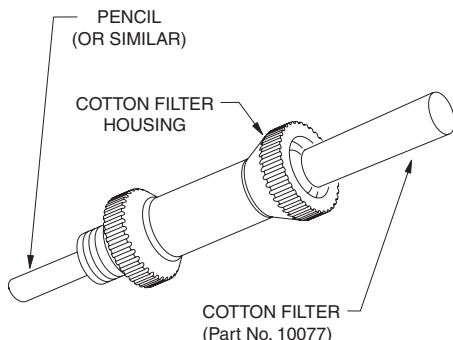

Fig. 12.9 Cotton Filter Removal
- 3) Using a pencil or similar, push the cotton filter from the threaded end of the housing as shown in Fig.12.9, then remove the filter.